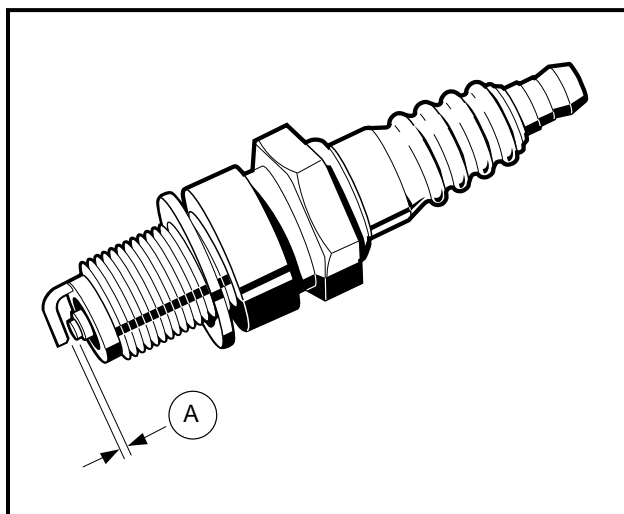

Figure 13-4 Spark Plug
Examine the plug (**Figure 13-4, Page 13-7**). The deposits on the plug base and electrode are an indication of the correct heat range and efficiency as well as a guide to the general condition of the engine, fuel and air mixture and ignition system. If all of the above conditions are proper, the spark plug should be a light brown color. There should be no bridging between the electrode and base. The electrode should not be eroded. Black color, excessive carbon, and/or a wet plug indicate a too rich condition. White, burned or melted electrodes indicate a too lean condition or pre-ignition. Oily deposits on the plug electrode are an indication of worn rings, valve guides, cylinder wall, etc. Also examine the spark plug wire. Remove rubber boot and inspect internal spring for damage. Inspect spark plug wire for damage and be sure spring coil is securely attached to spark plug. **See following WARNING.**
2. Use a wire type gauge. Bend the outside or ground electrode so only a slight drag on the gauge is felt when passing it between the electrode. Never make an adjustment by bending the center electrode. Set gap (A) to 0.027 - 0.031 inch (0.69 - 0.79 mm) **(Figure 13-4, Page 13-7)**.